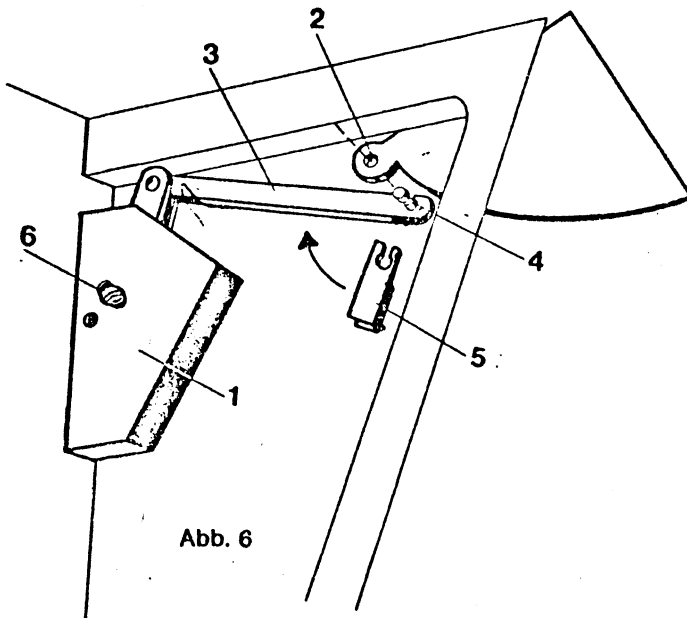

Abb. 6
**Important:** Due to danger of getting hurt the locking screw (Fig. 6/6) on the side of the balance weight must not be removed prior to attaching the rod (Fig. 6/3).
2. Insert bolt of rod (Fig 6/4) into eye hinge and secure it by spring (Fig. 6/5) which is fixed into groove of bolt and lift upwards until it engages above rod.
3. Hold hinge and only now remove locking screw (Fig. 6/6).